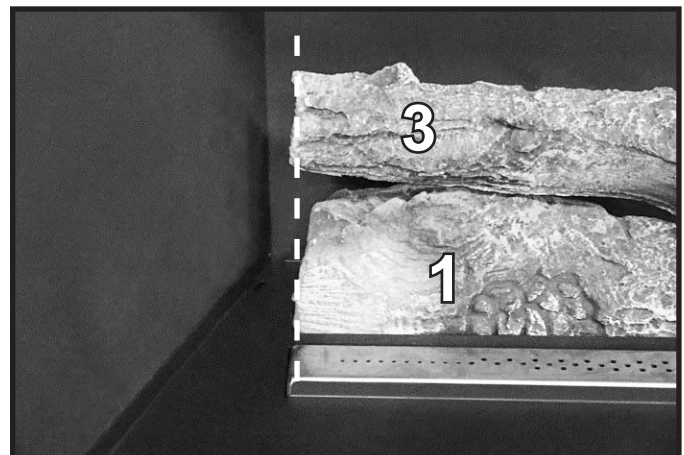

Figure 6 Log #1 and Log #3 Alignment
**Note:** When Log #3 is correctly positioned on Log #1, the left side of both logs will line up vertically. See Figure 6.